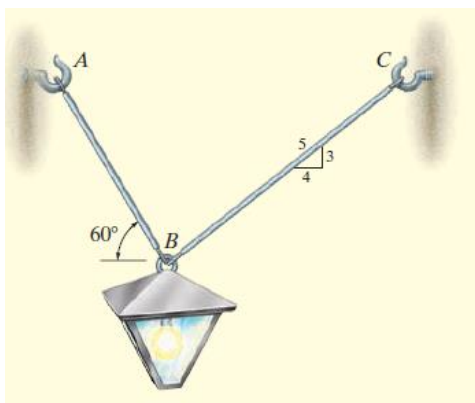

Fig. 2a
2. The 80-kg lamp is supported by two rods AB and BC as shown in Fig. 2a. If AB has a diameter of 10 mm and BC has a diameter of 8 mm, determine the average normal stress in each rod.